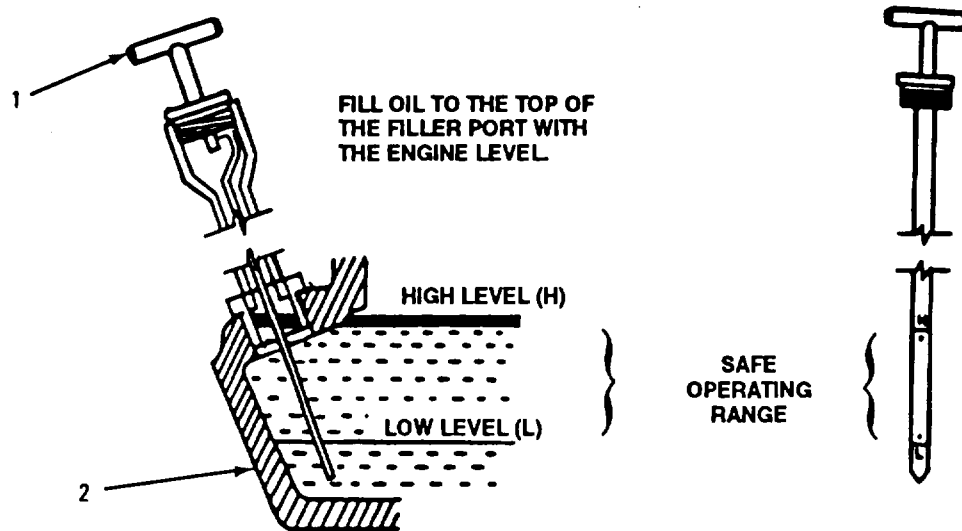

Figure 4-2. Oil Dipstick
- b. Refer to Figure 4-2. Make sure the engine is perfectly level. Rotate handle (1) counterclockwise until it is loose and then remove the dipstick and fill the crankcase with approximately 0.75 quart of proper viscosity oil required by the ambient temperature. (Refer to Appendix F.)
- i. Withdraw oil dipstick and wipe with a lint-free cloth (Appendix E, item 6). Check oil level to be sure oil coats dipstick within the operating range.